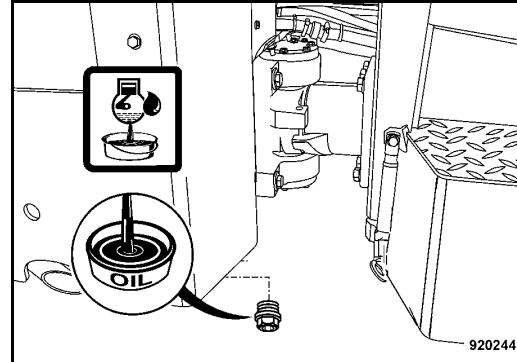

Fig. 134
- Unscrew the drain plug (Fig. 134) and catch running out oil.